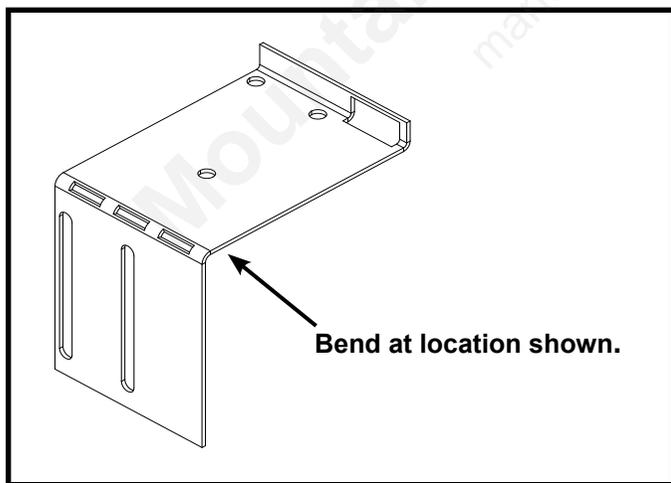

Figure 14.11
2. Bend metal bracket as indicated in Figure 14.11.